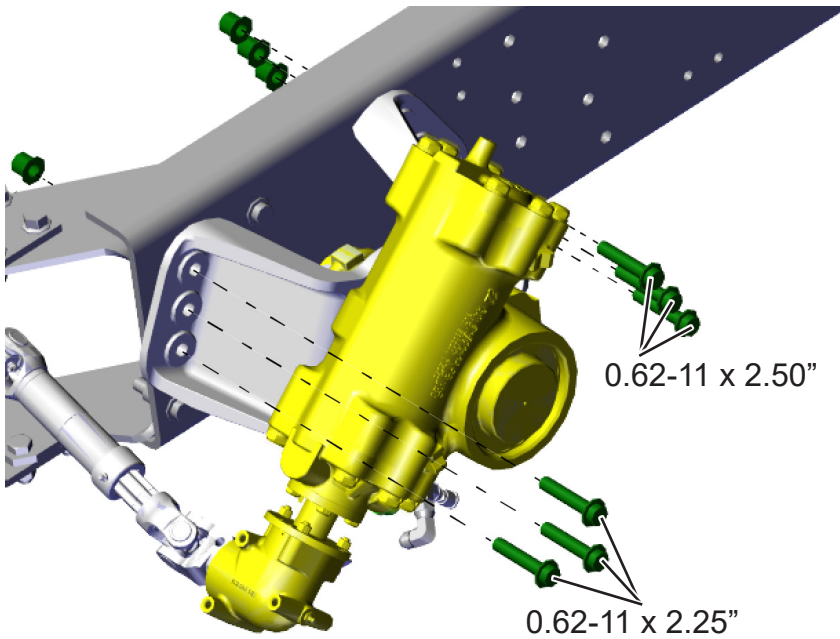

Figure 10
30. Mount steering gear assembly to frame rail with three 0.62-11 x 2.25 inch (111317A) and three 0.62-11 x 2.50 inch (120622A) grade 8 bolts and six spiral lock nuts (110311A). See Figure 10. Using a torque wrench, final tighten mounting hardware to 210 ft lbs.